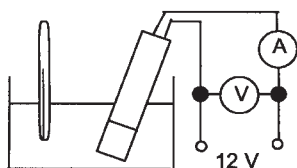

Figure 8.4 Activity 1
- 1 Determine the specific heat capacity of a liquid, e.g. water. A possible method is to use a small 12 V electric immersion heater (Figure 8.4). Thus 1 kg of water might be contained in a metal container and its temperature noted. Then, with the immersion heater wholly immersed in the water, the electricity is switched on for 5 minutes. During that time the heater is used to stir the water and the stirring is continued after the heater is switched off. The highest temperature reached is noted. The power IV delivered to the heater can be measured by an ammeter and voltmeter. The heat capacity of the container can reasonably be neglected when such a large mass of water is used.